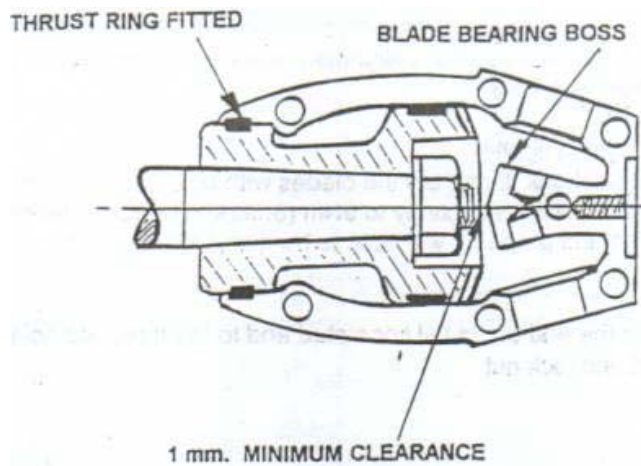

Fig. 1
- 7. Fit one half on the body and check for clearance to the end of the shaft thread See fig 1.